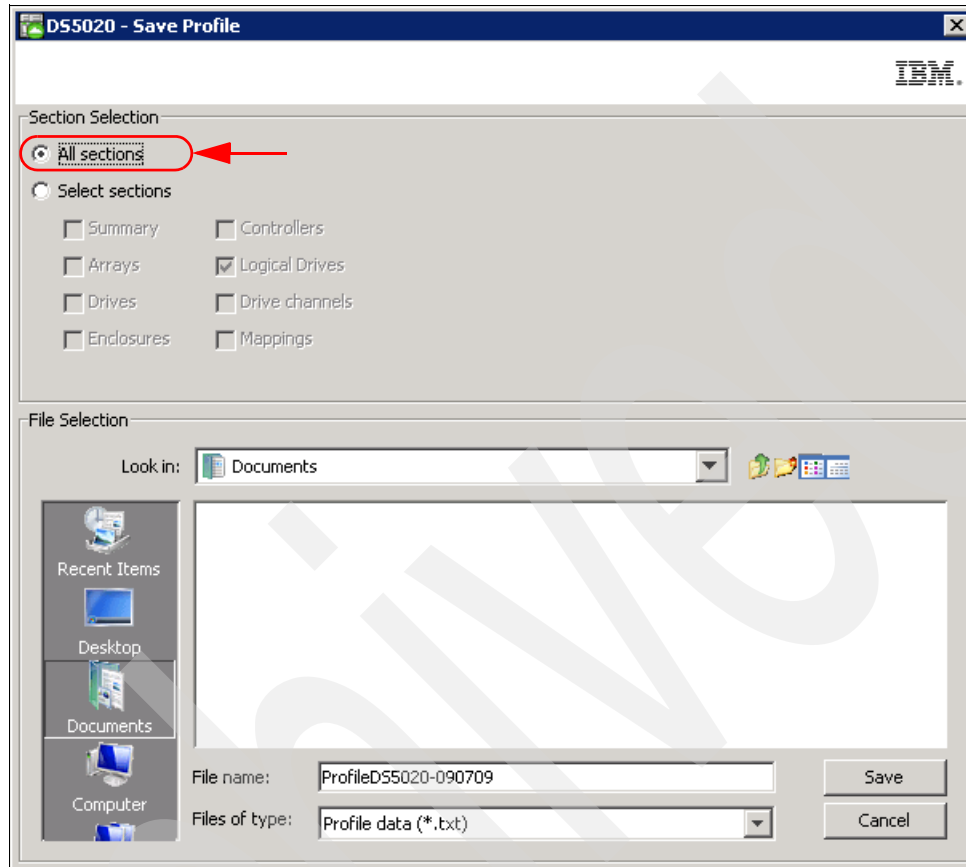

Figure 4-98 Save Profile: All sections
3. Select the **Save As** option to keep a copy of the current profile configuration. In the next window, select **All Sections** and specify a directory and file name where you will save a copy, as shown in Figure 4-98.